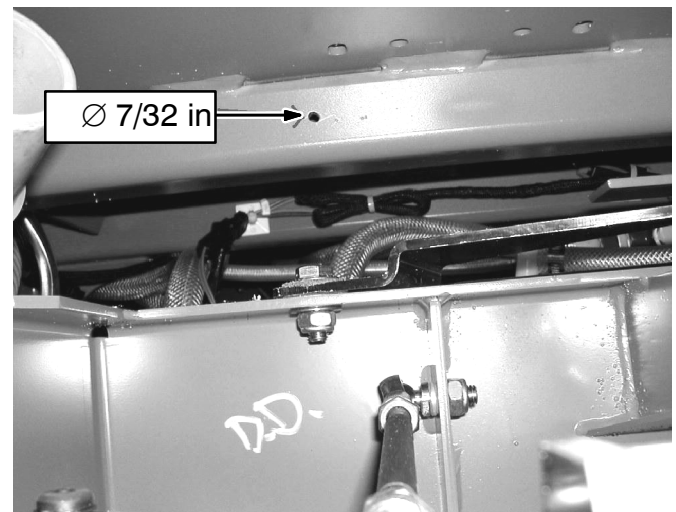

FIG. 4
(Refer to FIG. 4 thru 6, 9)
1. Using the dimensions shown in FIG. 4 for reference, mark and drill a 7/32 in hole in the support tube. Tap the hole, or use a thread rolling screw, when installing the bracket. (Refer to FIG. 4 and 9)